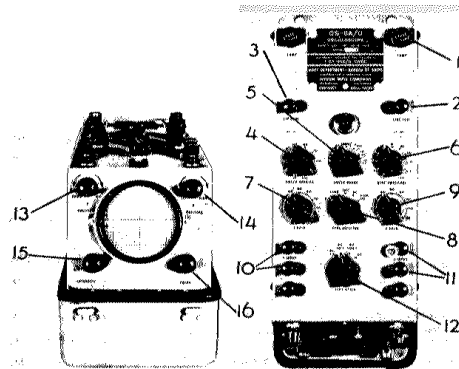

Figure 4-1. Oscilloscope OS-8A/U Control
The controls for Oscilloscope OS-8A/U are located on the top and slanted front panel of the unit, see figure 4-1 Oscilloscope Controls. These controls fall into two major types: potentiometers and switches. In addition to the controls, there are a number of terminal binding posts to which connections may be made during the course of using the instrument for testing purposes.
4. OPERATION OF CONTROLS. (See figure 4-1.)